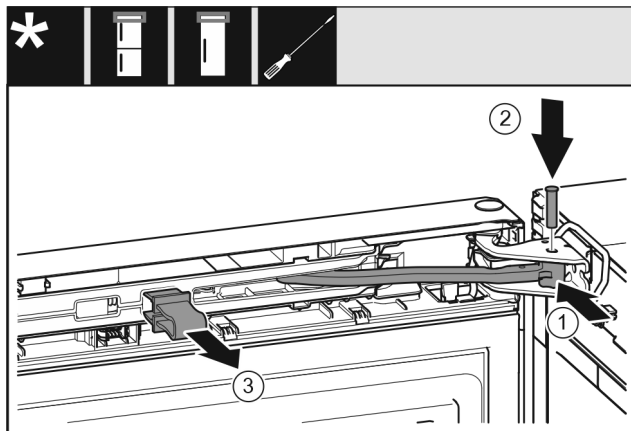

Fig. 48
- Turn the hinge in the bearing bracket. Fig. 48 (1)
- Insert the bolt in the bearing bracket and hinge. Make sure that the latching lug is sitting correctly in the groove. Fig. 48 (2)
- Remove the locking device. Fig. 48 (3)